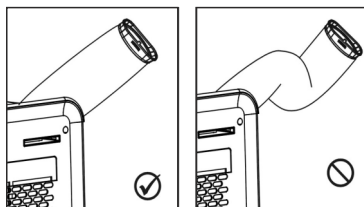

Fig. 2
- 2) Extend the air duct not more than 400 mm. The hose must be located in parallel to the surface. It is forbidden to fold the hose! (see Fig. 2)